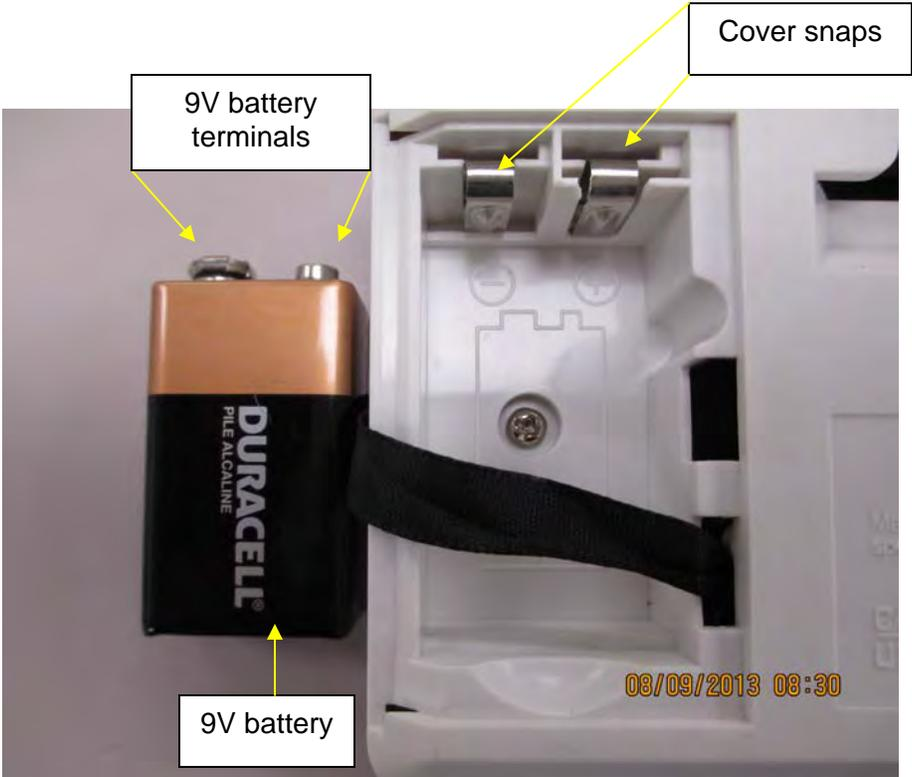

Figure 6
3. Replace or install the battery (Figure 6).